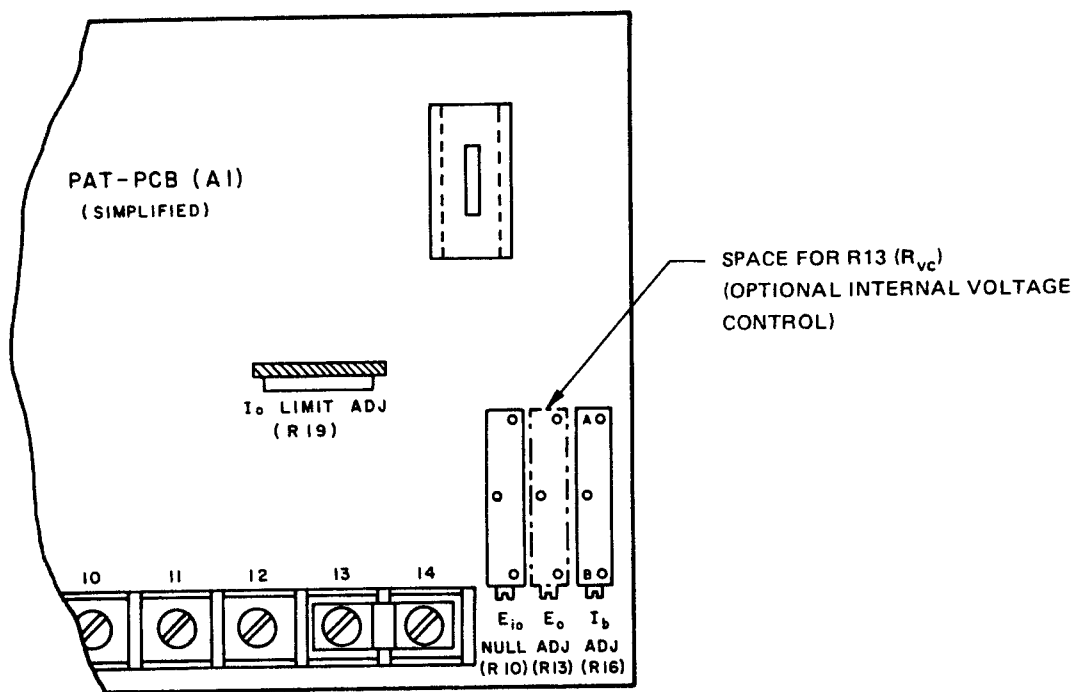

FIG. 5-2 INSTALLATION OF OPTIONAL CONTROLS.
- 5-6 **CURRENT LIMITING CONTROL ADJUSTMENT** (Refer to FIG. 5-2) A single-turn potentiometer (R19) conveniently located on the topside of the printed circuit board serves as an adjustment for limiting the output current through the range of 5% to 105% of its maximum rated value. It is factory-adjusted for approximately 5% above the maximum rated output current and has to be reset only if a component should have to be replaced or if a lower limit than the preset value is desired.
REFER TO FIG. 5-2.
- Refer to FIG. 5-2. The voltage control resistance (R_{vc}) may be installed internally in the space on the printed circuit board as shown.